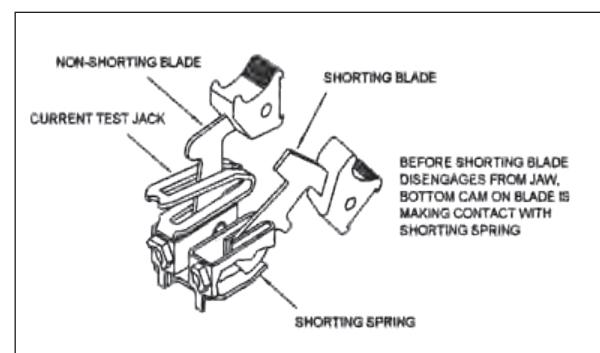

Figure 2. Blade assembly of 2 position pole "C-C"
Each individual pole is of a knife blade type. There are two different types of poles, Potential and Current. Potential poles (P) are configured as single, non-shorting knife blades for use in potential, trip, or control circuits. Current poles are typically configured in sets of two (C-C), for use with current circuits, and consist of a current test jack, a shorting spring, a shorting blade, and a non-shorting blade (see Figure 2). The positions of the short circuit springs are always visible from the front of the switch.